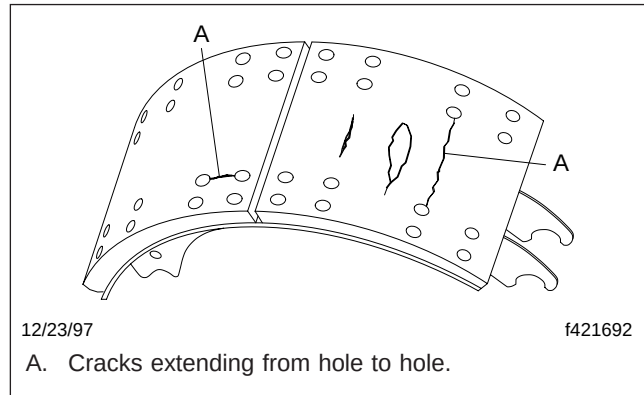

Fig. 6, Crack in the Brake Lining
- Surface cracks extend from hole to hole or if there is scoring and contamination from road debris. See Fig. 6.